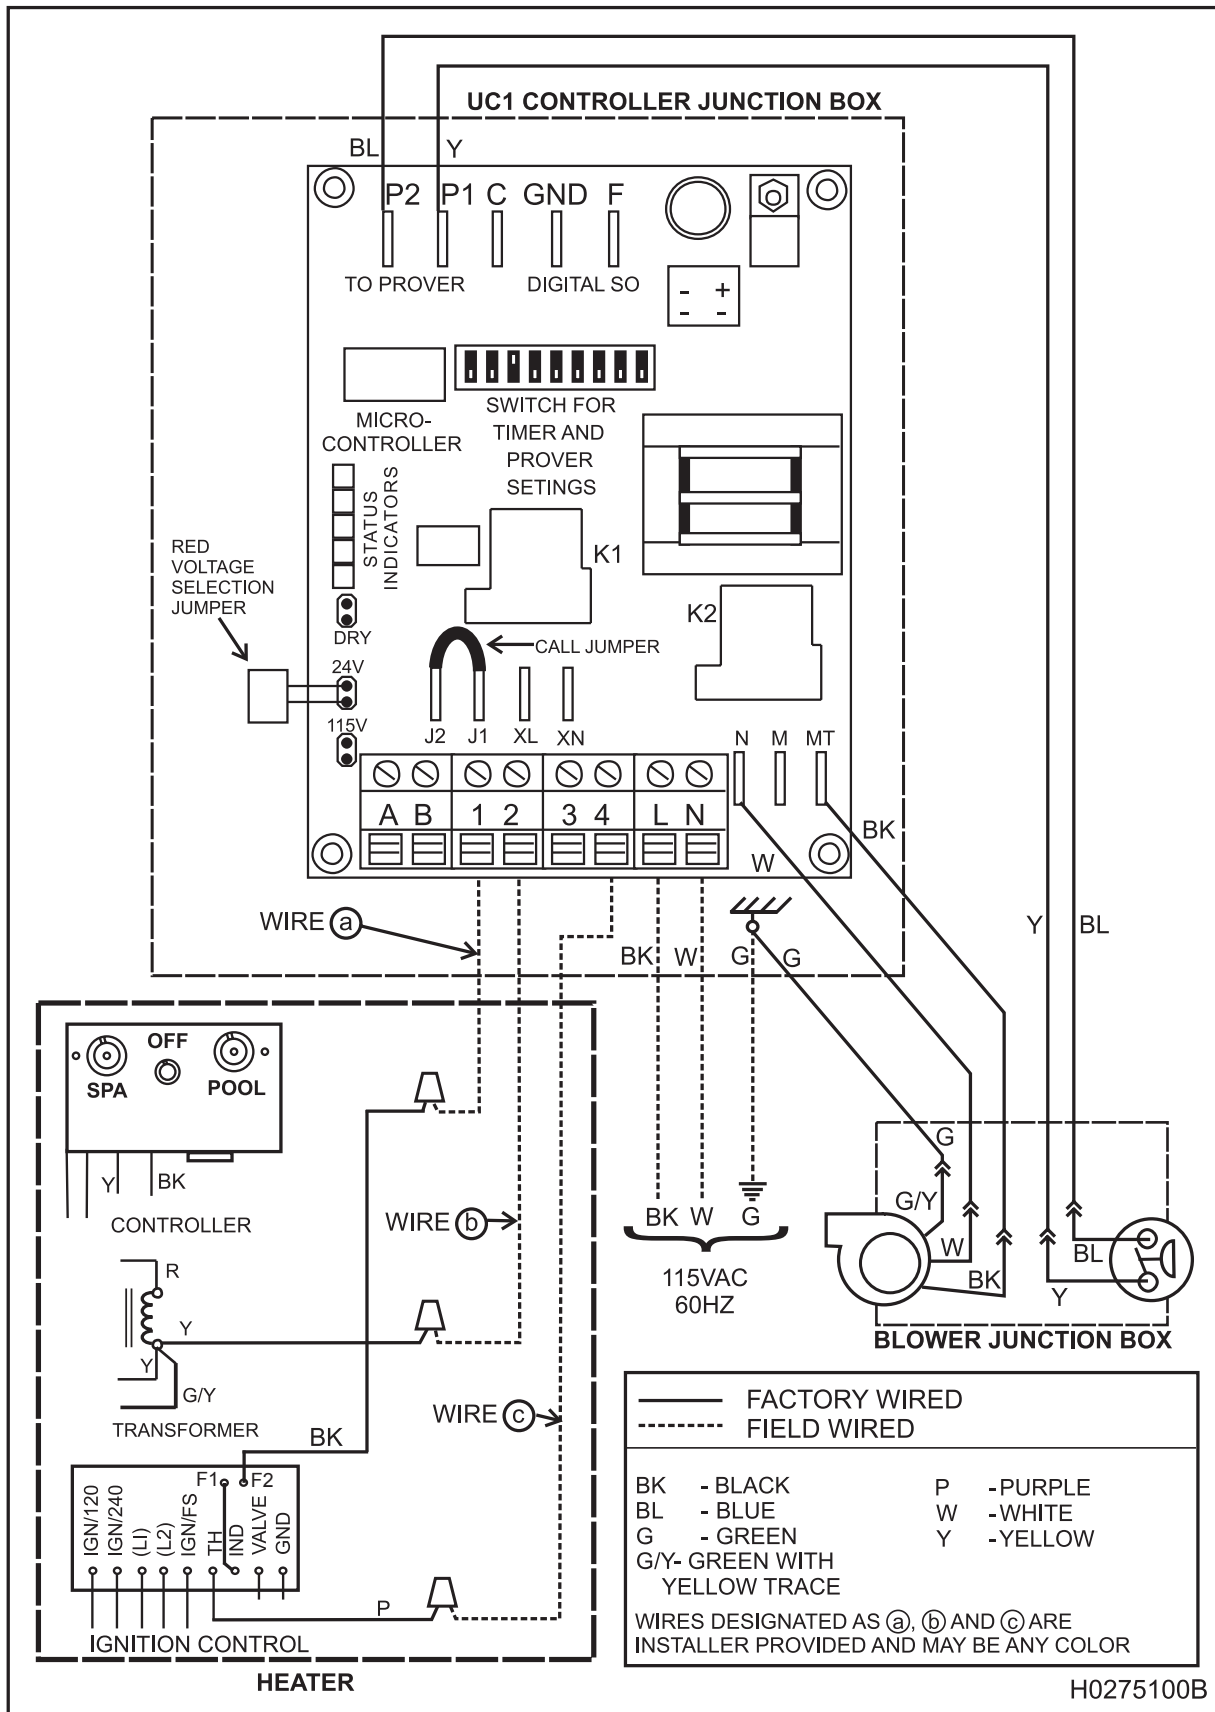

Figure 10. Wiring Diagram for Connecting a Model LD Heater to a Side Wall Power Venter
1. Mount the UC1 controller in a location that is near enough to the vent blower so that the supplied wire harness and conduit will connect the two (2) components easily.
2. Check that the harness is connected to the UC1 controller as shown in the wiring diagram (see Figure 10 or 11).
The installer must construct a wire harness of the length needed to connect the heater to the UC1 controller. Use wire of 20 AWG minimum with insulation rated at 90°C or higher. Installation can be made simpler by matching the colors of the wires in the heater, i.e. black with a yellow trace, yellow, black and purple. In any case the connections must be per the wiring diagram (see Figure 10 or 11). Run the wires in approved conduit.
5. Using the wire nuts provided in the kit, make the following connections in the heater's vestibule (see Figure 10, Wiring Diagram).
3. Connect the wires to the UC1 as follows (see Figure 10).
The Jandy LD heater uses a 24V signal to activate the power venter blower. When using the UC1 controller with a 24V signal, the "Call Jumper" (see Figure 10) must be connected to the appropriate terminals to complete the circuit.